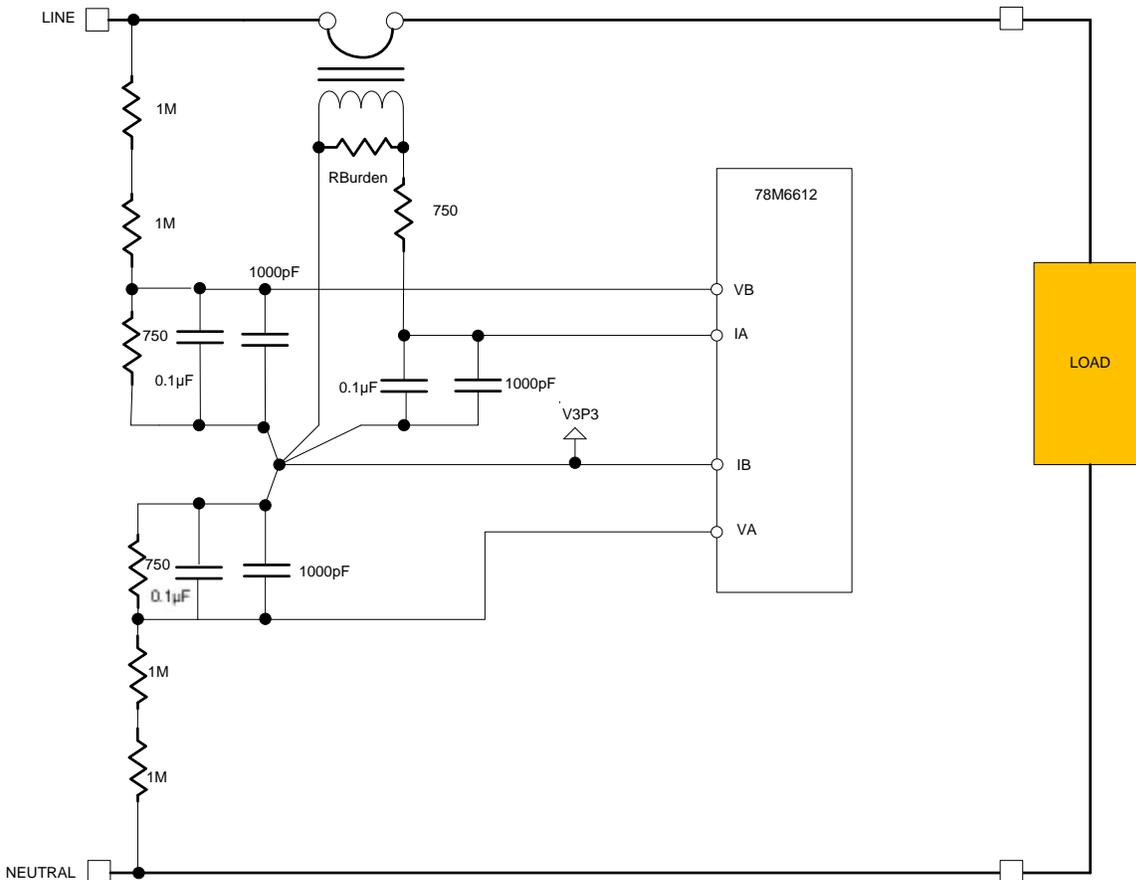

Figure 6: Basic Connection Diagram of a CT-Based System
Figure 6 shows a basic connection diagram of a CT-based system.
The use of a CT allows for the 78M6612's V3P3 to be isolated from the plant NEUTRAL wiring. This topology eliminates the safety issues stated earlier regarding shunt-based current sensing. Figure 6 shows a $2\text{ M}\Omega$ isolation from the LINE voltage via the voltage divider network. In this topology, the line voltage is a pseudo-differential measurement of VB-VA.
The pseudo-differential voltage measurement circuit of VB-VA shown in Figure 6 can be replaced with a voltage transformer (VT). The VT replaces the two $2\text{ M}\Omega$ resistor divider networks and requires use of only V. Use of a CT with a VT provides complete galvanic isolation from the plant wiring. A good quality VT provides accurate linear measurements from 100VAC to 240VAC.